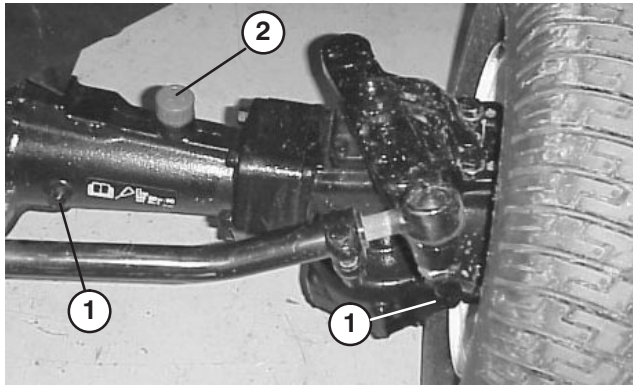

Figure 20
- Remove the 3 check plugs from axle (Fig. 20 and 21) and make sure lubricant is up to bottom of each hole.